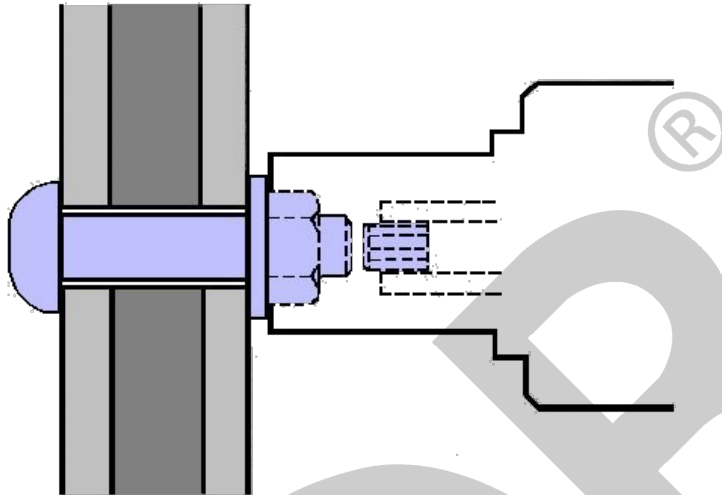

Fig 3.
3. Press the power switch. The outer socket rotates clockwise and tightens the nut whilst the inner socket holds the bolt spline (only one socket can move at any one time). When the correct preload is reached the outer socket stops rotating, the inner socket counter rotates and shears the spline off (Fig 3)